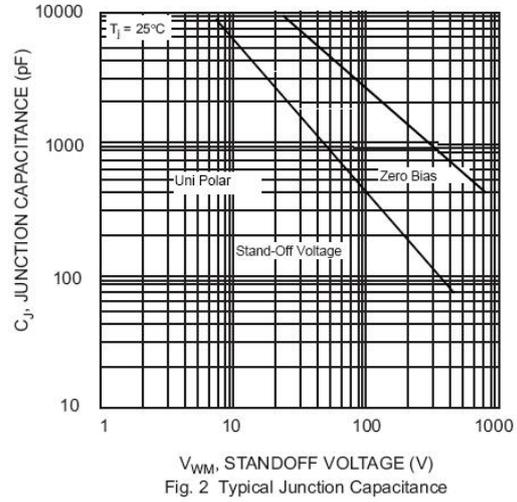
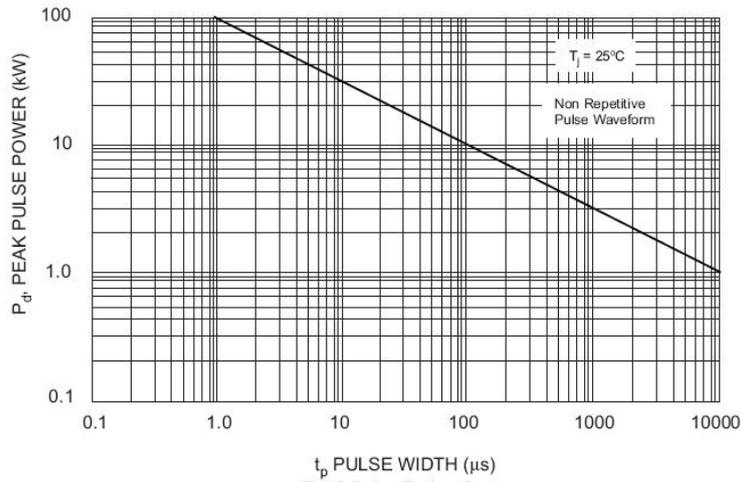

Fig. 2 Typical Junction Capacitance
Fig. 3 Pulse Rating Curve
1. Non-repetitive current pulse , per Fig. 3 and derated above  $T_A = 25^{\circ}\text{C}$  per Fig. 2.